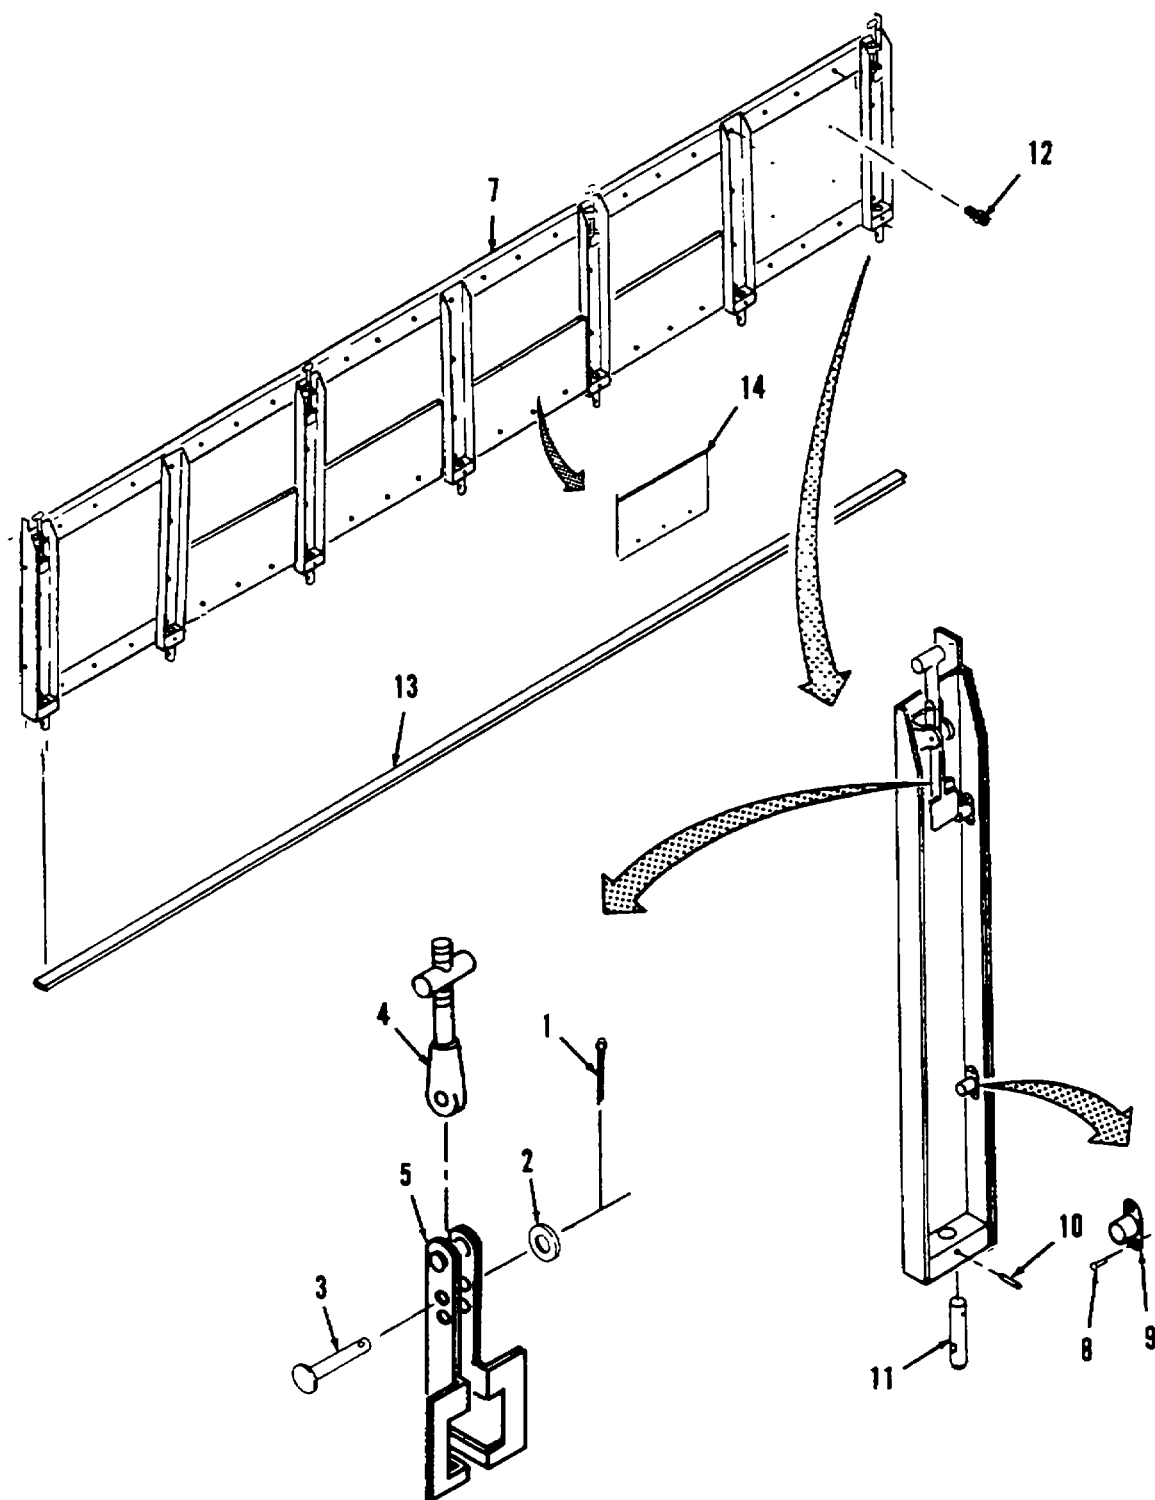

Figure 4-4. Side Panel Assembly Repair.
a. Disassembly. (Refer to Figure 4-4.)
- (1) Remove cotter pin (1), washer (2), pin (3), and drawbolt (4) from latch assembly (5).
- (2) Squeeze ends of latch assembly handle (6) together and remove latch assembly handle from side panel assembly (7)
- (3) Repeat steps (1) and (2) for other latch assemblies as required.
- (4) Drill out eight rivets (8) and remove four turnlock receptacles (9) from side panel assembly (7) Discard rivets.
- (5) Remove spring pin (10) and pin (11) from side panel assembly (7)
- (6) Repeat step (5) for other pins (11) as required
- (7) Remove four snap fasteners (12) from side panel assembly (7).
- (8) Remove all gasket material (13), if defective, from side panel assembly (7). Discard gasket material.
- (9) Remove four bumpers (14) from side panel assembly (7)
(2) Clean all metallic parts with a clean soft cloth or a medium bristle brush, and cleaning solvent Be sure to remove all gasket adhesive residue if gasket material is being replaced.
- (3) Allow parts to dry.
e. Assembly. (Refer to Figure 4-4.)
- (1) Apply adhesive to four bumpers (14) and install bumpers onto side panel assembly (7).
(2) Install new gasket material (13) if old gasket material was removed. Refer to Appendix G for gasket material manufacturing instructions.
- (3) Install four snap fastener (12) into side panel assembly (7).
- (4) Install pin (11) and spring pin (10) Repeat for other pins.
- (5) Install eight new rivets (8) and four turnlock receptacles (9) into side panel assembly (7).
(6) Squeeze open ends of latch assembly handle (6) together, place ends of latch assembly handle into latch retainer on side panel assembly (7), and release ends of latch assembly handle to engage handle with latch retainer.
- (7) Install drawbolt (4), pin (3), and washer (2), and cotter pin (1) into latch assembly (5).
- (8) Repeat steps (5) and (6) for other latch assembly handles (6) as required.
- (9) Install side panel assembly onto skid per paragraph 2-8.
- (10) Install end panel assemblies per paragraph 2-8.